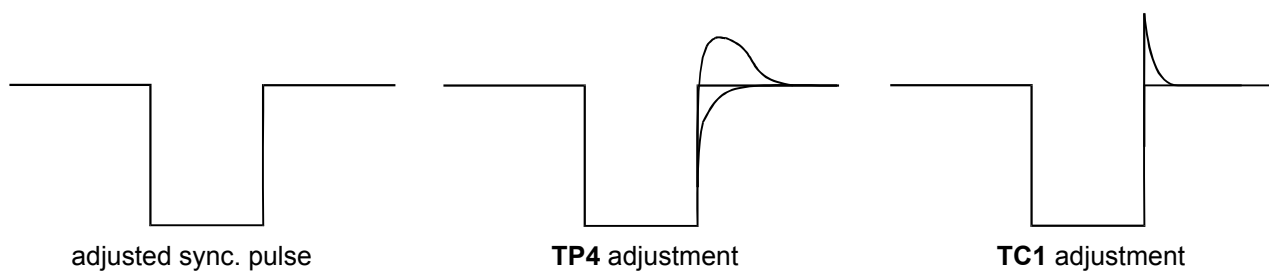

Fig. 1: Sync. pulse correction
- (13) Switch-on the video monitor.
- (14) Check the positive video input signal between **A** and \wedge .
- (15) Check the negative video input signal between **B** and \wedge .
- (16) Set the output video signal to 1 Vpp - trimmer **TP3**.
- (17) Do the fine adjustment with **TC2**, **TC3**, **TC4**, correct the sync. pulse with **TP4**, **TC1**. (**Fig. 1**)
- (18) If adjustment with **TC2**, **TC3**, **TC4** is not possible, switch-on **SW13**, **SW14**, **SW15** and do the fine adjustment.
- (19) Set the minimal disturbance - trimmer **TP2**.
- (20) Correct the output video signal to 1 Vpp - trimmer **TP3**.
- (21) If there is too much noise in the signal (gain adj. > 50 dB at 5 MHz), set the pre-emphasis to **+10 dB** in the video twisted-pair transmitter.
- (22) If $a < 6$ dB (short distance), **SW1-SW15** switch-off, **SW16** switch-on, jumper **J1** set to **- 6 dB** and do the fine adjustment.